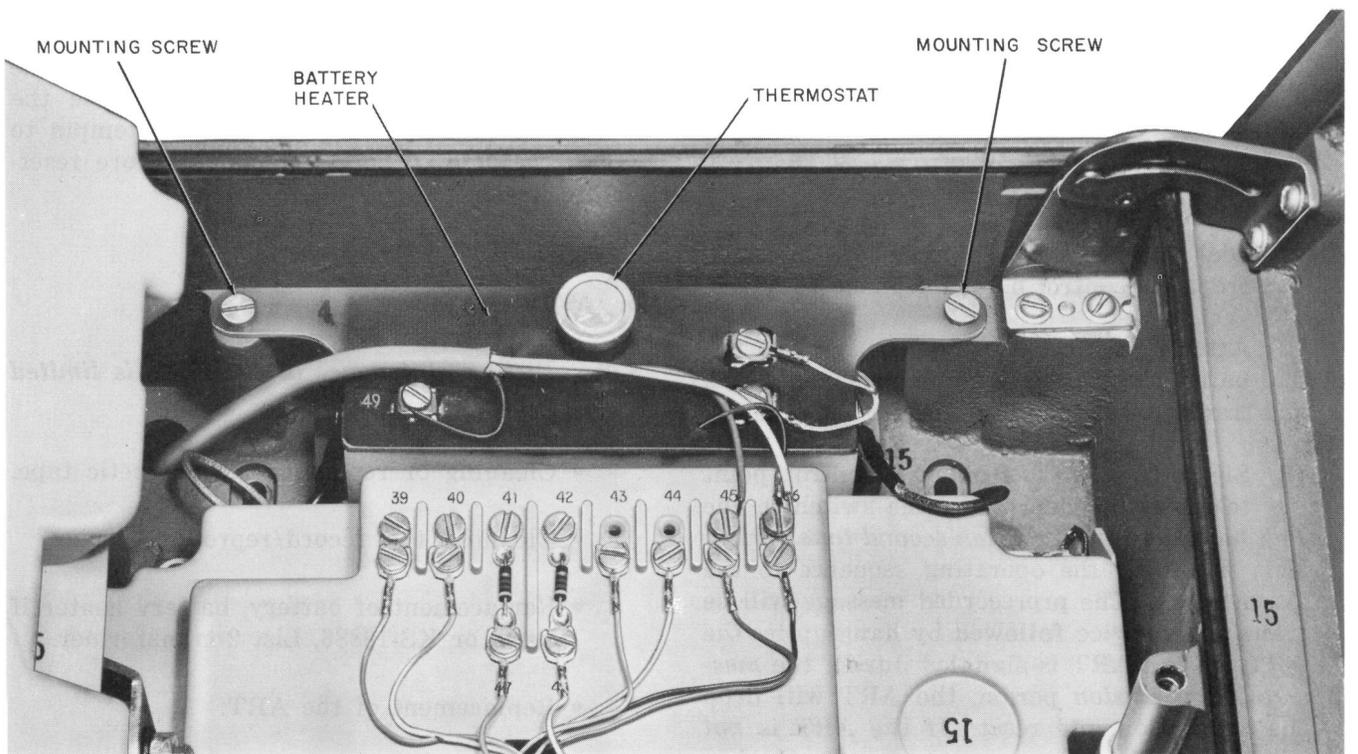

Fig. 8 — D-180053 Heater, Installation
- (a) Loosen two captive screws holding battery bracket or battery heater (Fig. 8).